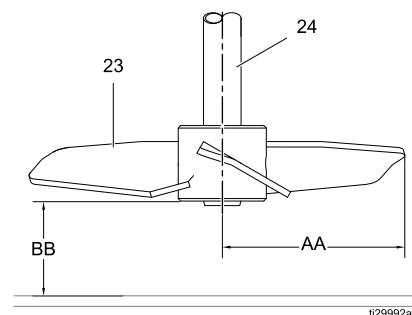

Figure 3 Impeller Installation
- a. For flange mount: See Models 25C454 and 25C463, page 12 for parts identification. Place gasket (20) and bearing housing/flange assembly (A) on tank cover. Install flat washers, mounting bolts, and nuts (not provided). Tighten securely.
- b. For quick-clamp flange mount: See Models 25C453, 25C575, 25C464, 25C576, page 14 for parts identification. Place bearing housing/flange assembly (A) on top of quick-clamp gasket (not provided) and existing quick-clamp flange on tank. Attach with clamp (not provided) and tighten securely.
- c. For pressure tank: See Models 25C462, 25C470, 25C471, 25C465, 25C472, 25C473, page 16 for parts identification. Place gasket (21) and bearing housing/flange assembly (A) on pressure tank cover. Install and secure with lock washer (32) and nut (22). Tighten securely to prevent assembly from rotating.
2. Install the retaining ring (6) in the machined slot in the agitator shaft (24).
4. Slide the impeller (23) (see Figure 3) onto the shaft (24) so the blade is pushing material down with the blade turning clockwise when viewed from above. Shaft can be moved up and down in the bearing housing to install the impeller.
5. Position the impeller along the shaft as required: The distance from the tank bottom to the lowest impeller blade (BB) should be 1/2 to 1-1/2 times the impeller blade diameter (blade diameter is determined by measuring the distance from the tip of the impeller to the shaft center (AA) and multiplying by two).